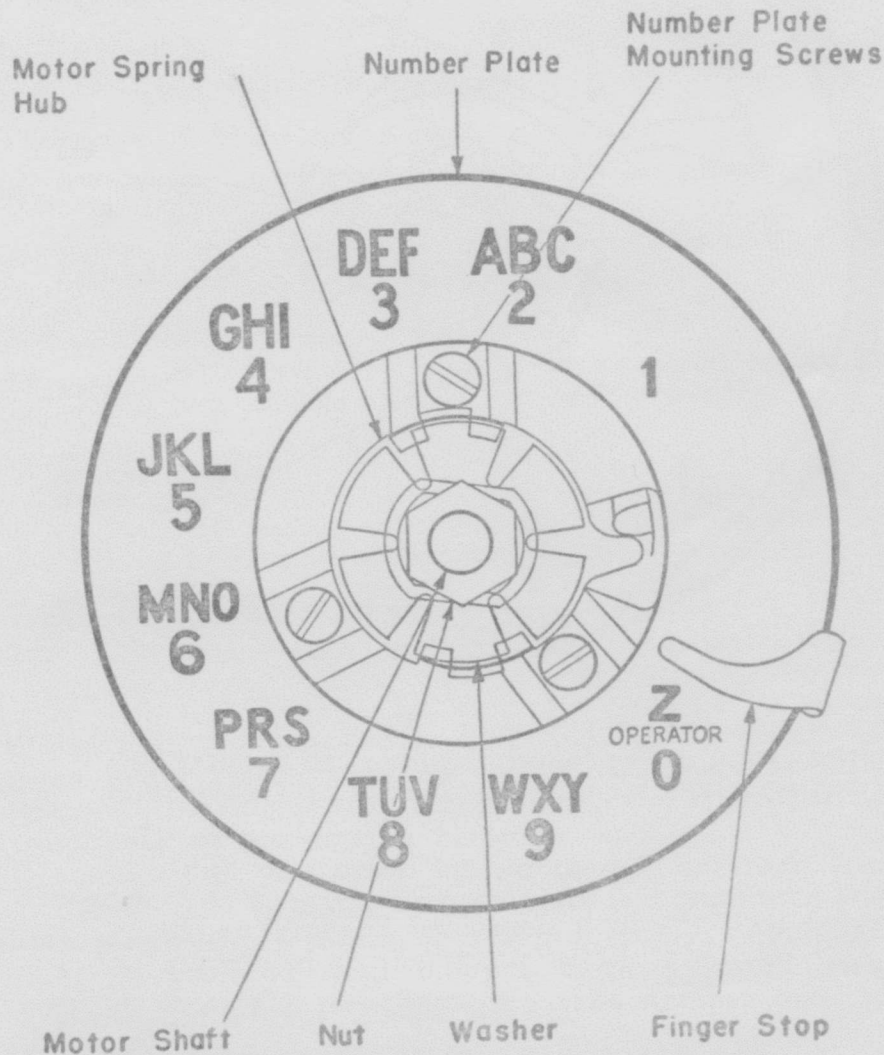

Fig. 2
2.02 If dial has a plain flat washer, replace it with spring washer P-459447 as shown in Figs. 2 and 3.
2.04 The number plate on the 6 type dial shall not be dirty, badly marred or chipped. The characters shall be clearly legible. Wipe with a clean damp KS-2433 cloth or replace. If necessary to change the number plate of the 6 type dial, remove the card holder frame, finger wheel nut and washer, finger wheel and the three exposed screws as shown in Fig. 2. See Par. 2.01.